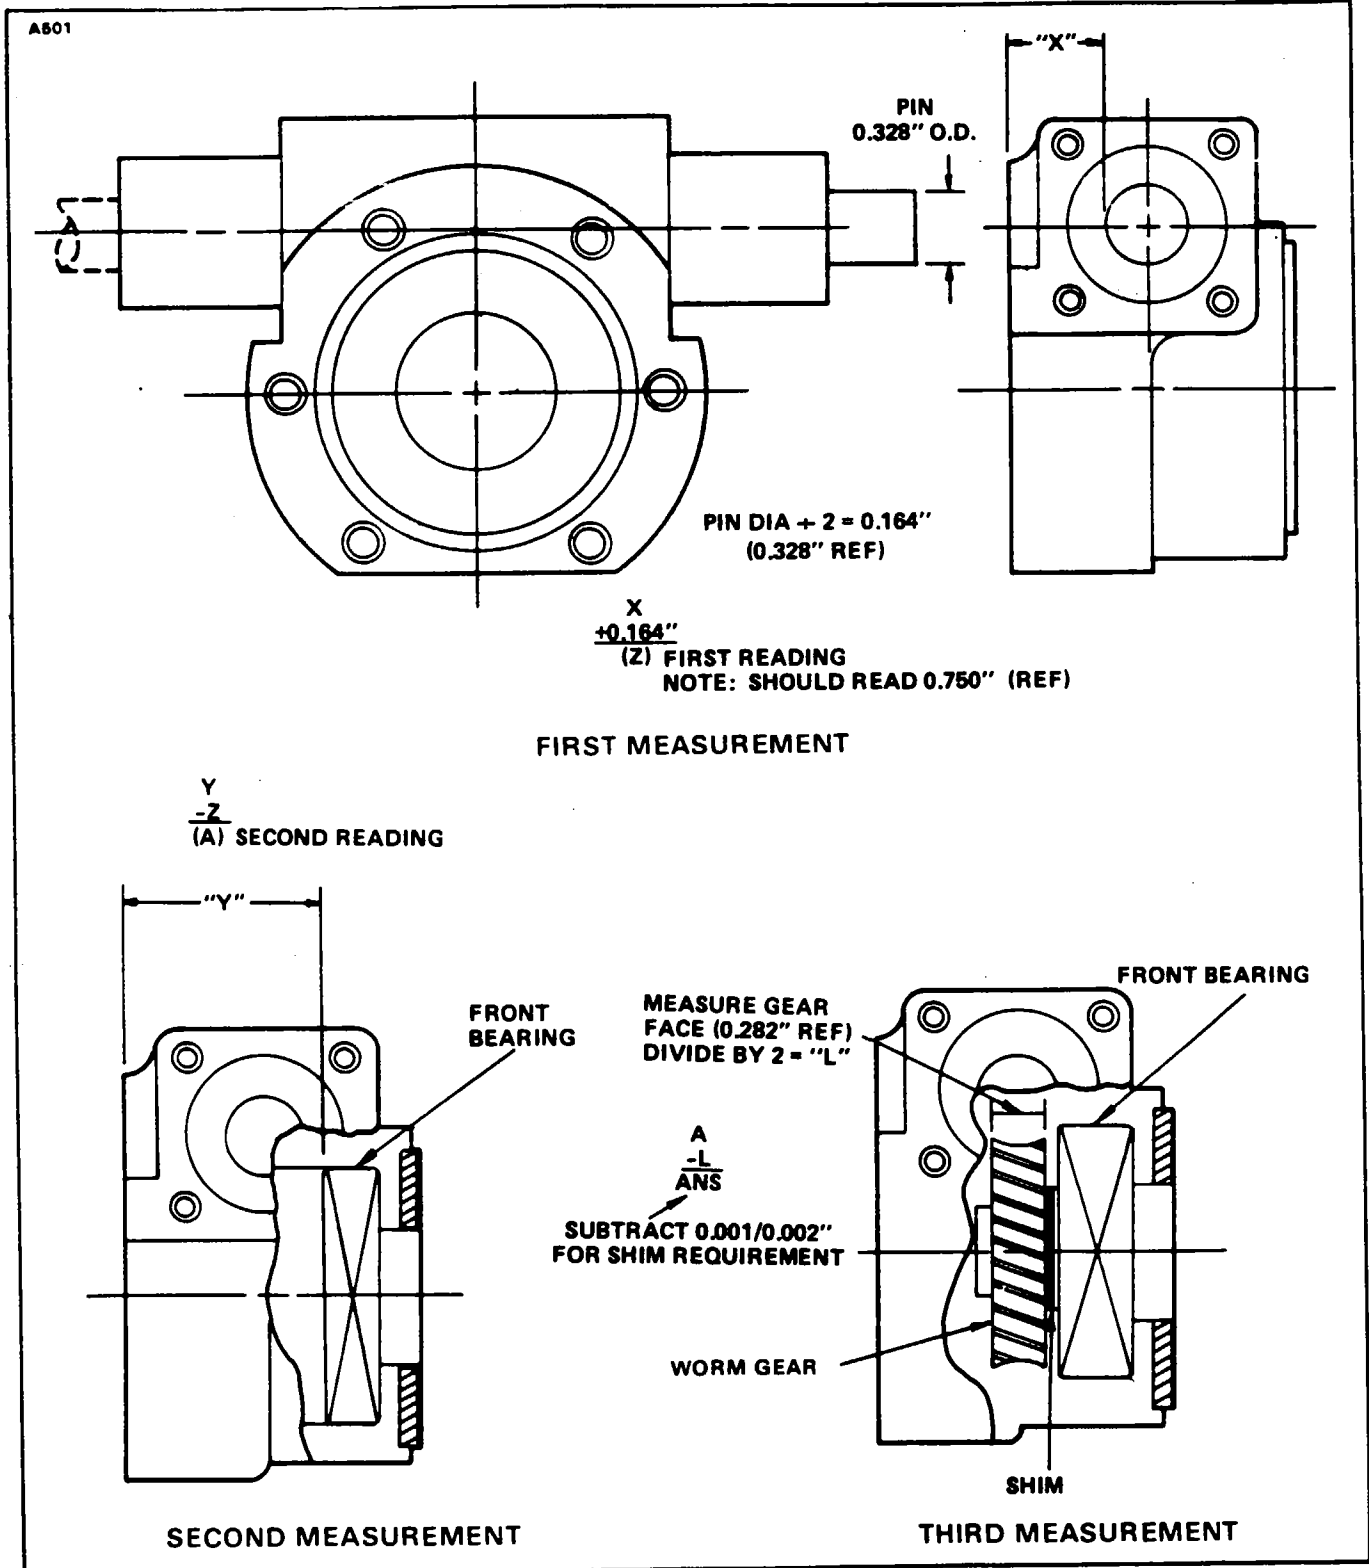

Figure 27-28. Flap Transmission Measurements
13. Take measurement from milled surface of housing to shoulder of worm gear ("W" dimension) (refer to Figure 27-28). Measure width of rear bearing ("K" dimension). Subtract the two measurements. Subtract 0.001-0.002 from results. This is the shim required.